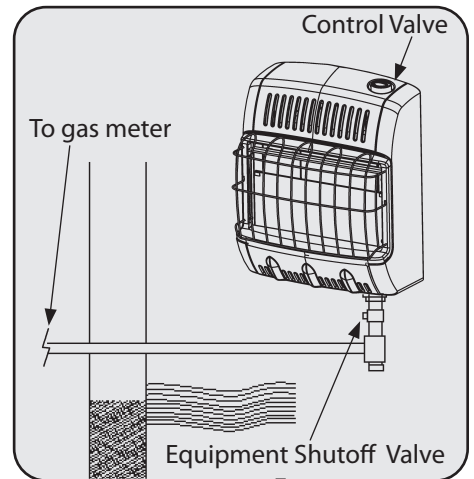

Figure 14
3. Check all joints from the gas meter to equipment shutoff valve. See Figure 14. Apply mixture of liquid soap and water to gas joints. Bubbles forming show a leak.
5. Check all joints from equipment shutoff valve to control valve. See Figure 14. Apply mixture of liquid soap and water to gas joints. Bubbles forming show a leak.